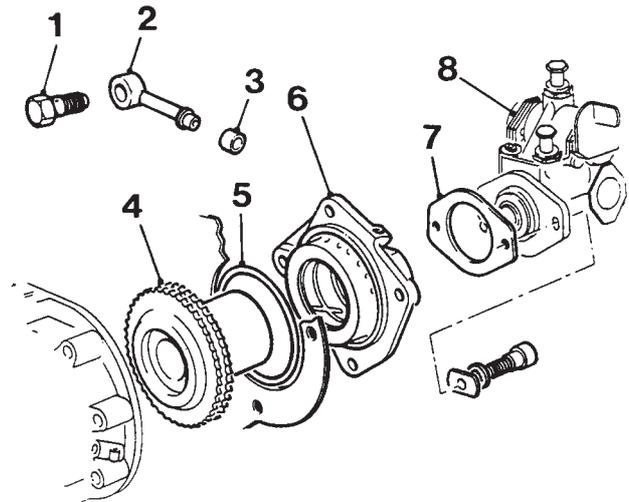

Fig.7 Injection pump drive components
6. Remove the lubrication pipe to the injection pump drive noting its sealing sleeve (see fig.7).